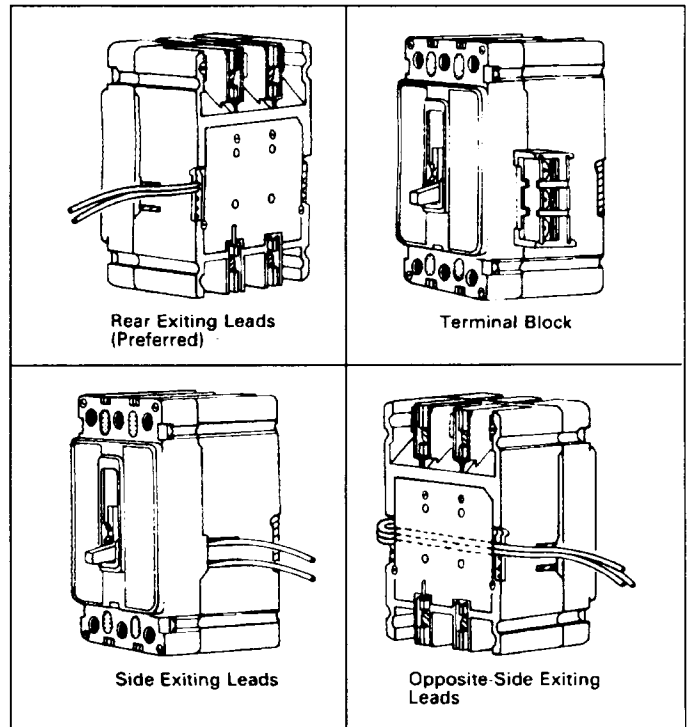

Fig. 2-3. Accessory Wiring Options
- 2-4. Route wiring to meet installation requirements (see Fig. 2-3).